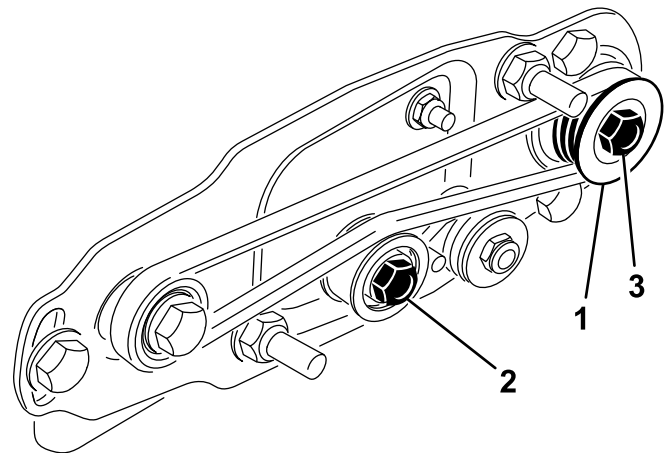
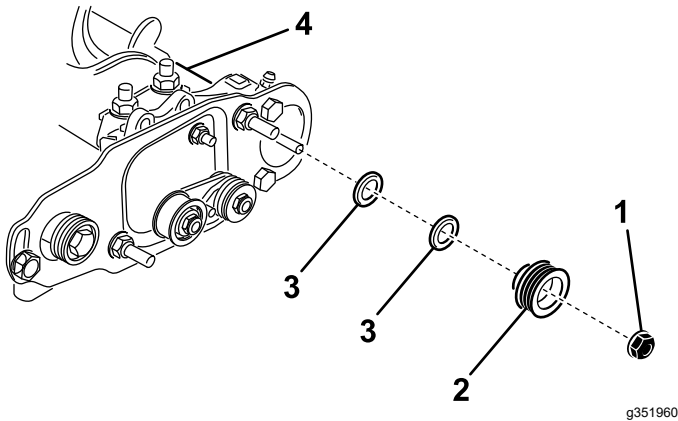

Figure 39
Figure 40
1. The driven pulley (at roller brush shaft) can move in or out (Figure 39). Make note of which way the pulley needs to move.
2. While rotating the reel, which will rotate the drive pulley, pry the belt off the drive pulley (Figure 39)
3. Remove the locknut securing the driven pulley to the brush shaft (Figure 39 or Figure 40). Put a 1/2 inch wrench on the roller brush shaft flats to keep it from rotating.
4. Remove the driven pulley from the shaft (Figure 40).
5. If the pulley needs to move out, add one 0.8 mm (0.032 inch) thick spacer (Figure 40).